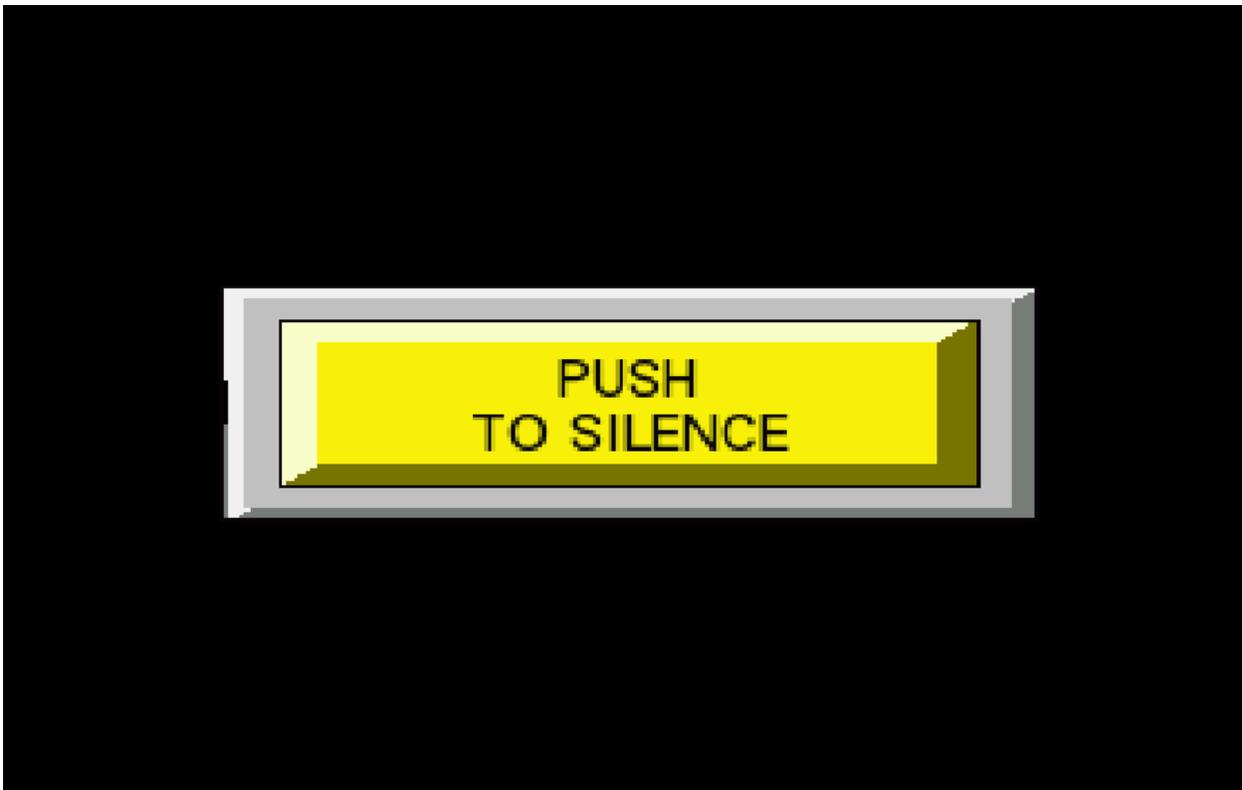

Figure 4.0
2. When an alarm event occurs you will see the HORN SILENCE screen appear like figure 4.0 below. There will be a red and yellow horn silence button flashing on the screen. At the same time you will hear an alarm beacon signaling that there is an alarm present. Press the HORN SILENCE button to silence the alarm beacon and the screen will automatically switch back to the MAIN screen.